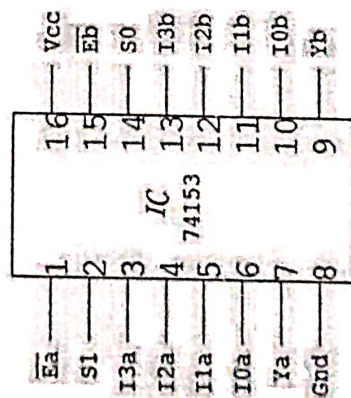

Figure 2: Pin diagram of IC 74153
In case of 4:1 Mux, there are four input lines, I_0 , I_1 , I_2 and I_3 , which are to be multiplexed on a single line output line (Y). The four input lines are also known as the Data Inputs. Since there are four inputs, there is need of two additional inputs to the multiplexer, known as the **Select Inputs**. The purpose of select inputs is to select, which of the inputs is reflected at the output. Call these select lines $S_1(A)$ and $S_0(B)$. The pin diagram of IC74153, which is dual 4:1 Multiplexer IC is shown below in Figure 2.